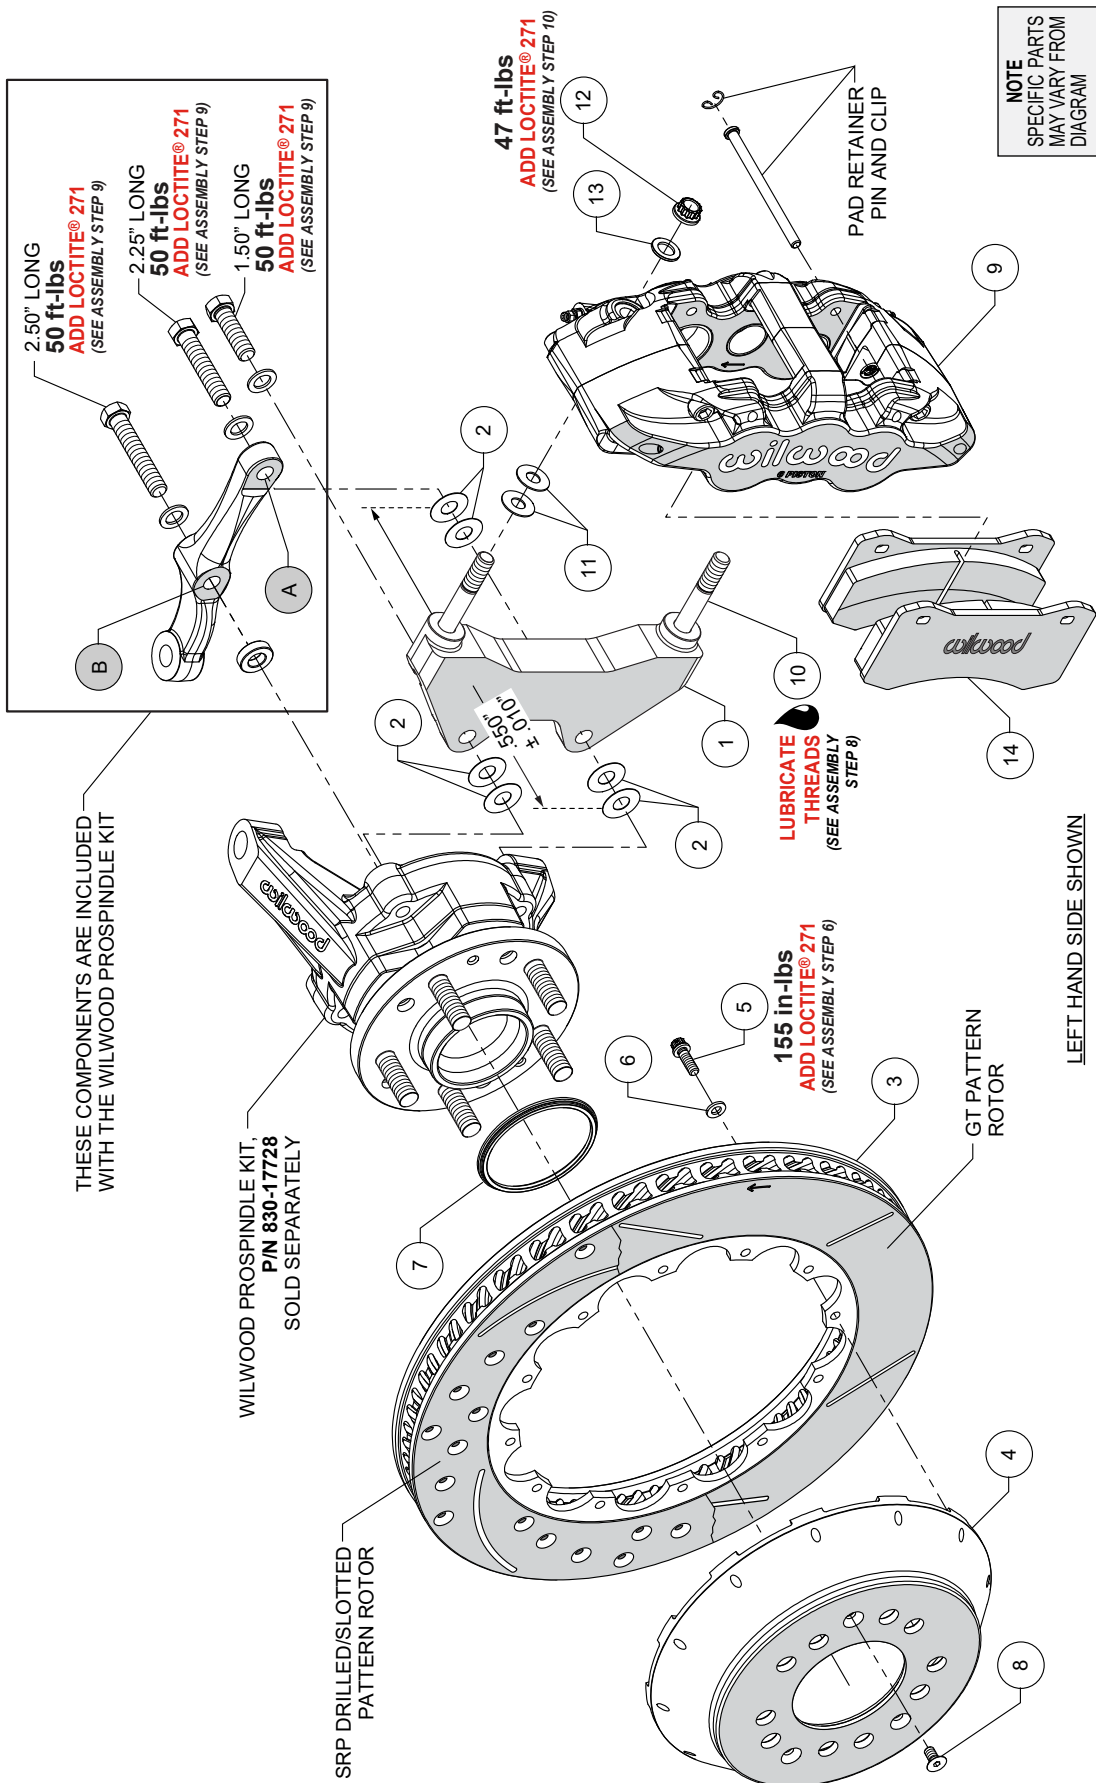
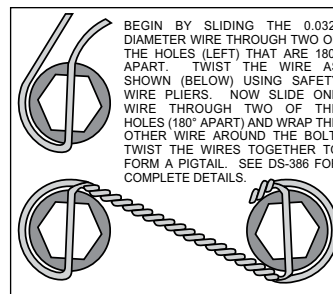

Figure 1. Typical Installation Configuration
Figure 3. Safety Wire Diagram
- NOTE:** This brake kit fits Wilwood's 2" drop ProSpindle (P/N 830-17728). Some hardware shown in Figure 1 is included with the ProSpindle kit (sold separately).
NOTE: Numbers in parenthesis refer to the parts list and Figure 1 on the preceding pages.
NOTE: Each Wilwood ProSpindle kit (sold separately) includes bolts, washers, and a spacer to mount the steering arm and caliper bracket. The various bolts are identified by length in the following instructions and in Figure 1.
STEP 1 The caliper bracket (1) should initially be installed with clean, dry threads on the mounting bolts. Orient the bracket as shown in Figure 1 and Photo 1.
STEP 2 Install the bracket (1) at top spindle hole using 1.50" long bolt and .063" thick washer (from ProSpindle kit), and two .016" thick shims (2) between the bracket and spindle, Figure 1 and Photo 2
STEP 3 Orient the steering arm, and identify the hole marked 'A', as shown in Figure 1 and Photo 2. Install at bottom spindle hole using 2.25" long bolt and .063" thick washer (from ProSpindle kit), two .016" thick shims (2) between the bracket and steering arm, and another two .016" thick shims (2) between the bracket and spindle, Figure 1 and Photo 2. The bracket is located between the steering arm and spindle. **NOTE:** The bracket and shim washers must add up to a total thickness of .550" ± .010".
STEP 4 Finish attaching the steering arm through the hole marked 'B', as shown in Figure 1 and Photo 2. Install using 2.50" long bolt, .063" thick washer, and .250" thick spacer (all from ProSpindle kit), Figure 1 and Photo 2.
STEP 6 Orient the rotor (3) and the hat (4) as shown in Figure 1, and Photo 3. Attach rotor to hat using bolts (5) and washers (6). Apply red Loctite® 271 to the bolt threads and torque to value shown in Figure 1 using a criss-cross pattern. For an added measure of security, the bolts may be safety wired using standard 0.032 inch diameter stainless steel safety wire as shown in Figure 3. Refer to Wilwood's data sheet DS-386 (available at www.wilwood.com/Pdf/DataSheets/ds386.pdf) for complete safety wire installation instructions.
STEP 7 Install the rotor registration adapter (7) onto the register of the hub assembly with the smaller O.D. facing outward, Photo 4. Slide the rotor/hat assembly (3/4) onto the hub, taking care to align the small countersunk holes in the hat with the small threaded holes in the hub, Figure 1. **NOTE:** The hat must fit flush against the hub face or excessive rotor run out may result. Install rotor locator screws (8) to keep the hat/rotor assembly in place while continuing with the installation, Photo 5.
STEP 8 **NOTE:** This kit contains distinct right and left hand calipers that must be mounted in a specific direction, as described below. Lubricate the caliper mounting studs (10) with lightweight oil. Initially place two .030" thick shims (11) on each stud (10) between the caliper and the bracket, as shown in Figure 1 and Photo 6. Mount the caliper (9) onto the bracket (1) using lock nuts (12) and washers (13), Figure 1. Temporarily tighten the lock nuts. Ensure that the caliper is mounted so the largest pistons are at the rotor exit end of the caliper, in relation to the forward rotation of the rotor. View the rotor through the top opening of the caliper. The rotor should be centered in the caliper, Photo 7. If not, proceed as follows:
- Adjust by adding or subtracting shims (2) between the **bracket and the spindle**. Always use the same amount of shims on each of the two bolts **between bracket and spindle**.
- For the lower bracket mount bolt, if a shim (2) was added between the **bracket and spindle**, then a shim must be removed between the **steering arm and bracket**, such that the total thickness of bracket and shims remain equal to $.550 \pm .010$ ".
STEP 9 Once the caliper alignment is correct, remove the ProSpindle supplied bolts one at a time, apply red Loctite® 271 to the threads, and torque to value shown in Figure 1.
STEP 10 Remove the caliper (9), then remove the two pad retaining pins from the caliper by carefully popping out the pin retaining clips and sliding out the pins. Insert the brake pads (14) into the caliper from the bottom with the friction material facing the rotor, Figure 1 and Photo 8. Secure the brake pads in place with the pad retaining pins and clips. Reinstall the caliper onto the caliper mounting bracket and temporarily tighten the lock nuts.
Check that the top of the brake pad is flush with the outside diameter of the rotor, Photo 9. If not, adjust by adding or subtracting shims (11) between the caliper and the bracket. After the caliper pad height is set, torque the caliper lock nuts (12) to value shown in Figure 1.